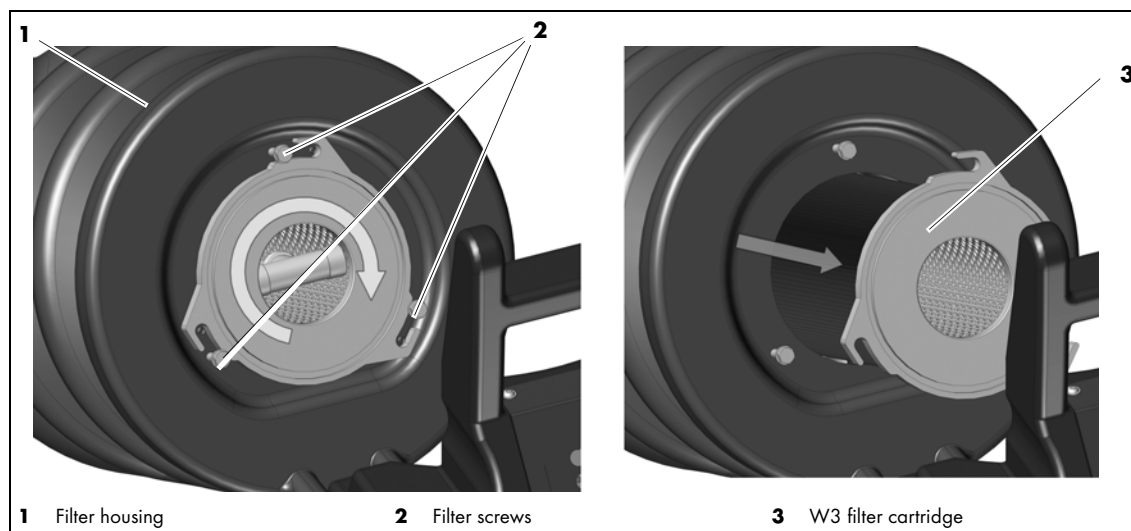

Fig. 14 Replace the filter cartridge
- ⇒ Fig. 14 Replace the filter cartridge on page EN-24